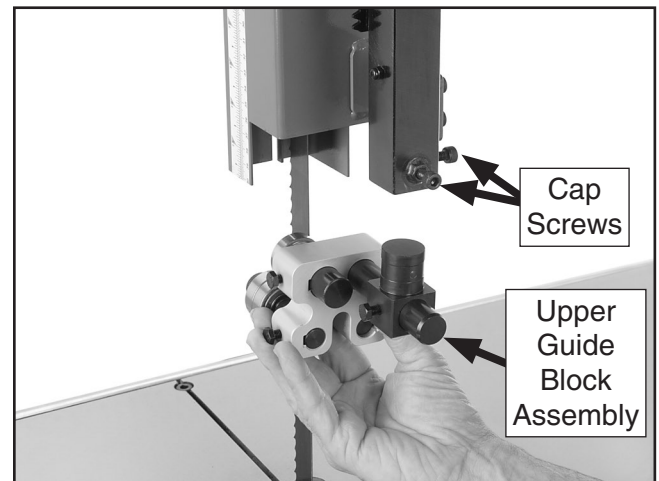
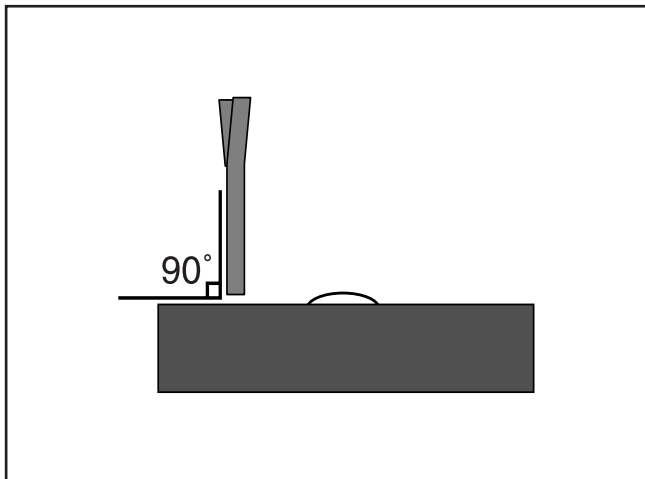

Figure 3. Removing existing upper blade guide assembly from guide post.
Figure 14. Illustration of blade set perpendicular (90°) to the support bearing face.
2. Loosen the two cap screws that secure the upper guide block assembly to the guide post (see Figure 3).
3. Loosen the upper guide block assembly cap screws (see **Figure 3** on **Page 1**) and rotate the blade guide assembly side-to-side, until the support bearing is perpendicular with the face of the blade, as illustrated in **Figure 14**.
3. Check to make sure that the blade is perpendicular to the face of the support bearing, as illustrated in **Figure 14**.